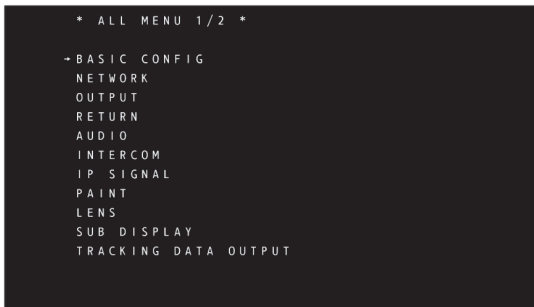

Fig. 1
- 5** Turn the <SELECT> dial button to move the cursor (arrow) to [BASIC CONFIG]. (Fig. 1)